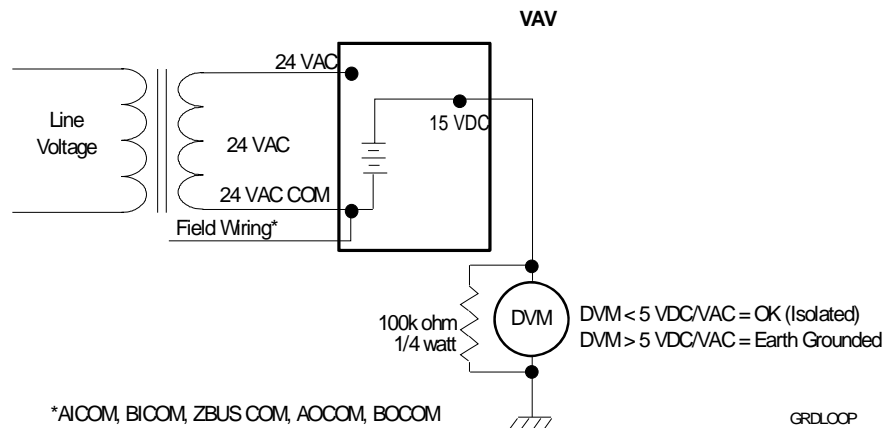

Figure 40: Testing for Ground Loops
- Connect the leads of the DVM in parallel with the 100k ohm resistor from the DC power supply (+15 VDC) output terminal of the VAV to earth ground (Figure 40). This tests whether the field devices, the VAV, and the transformer assembly are properly isolated.